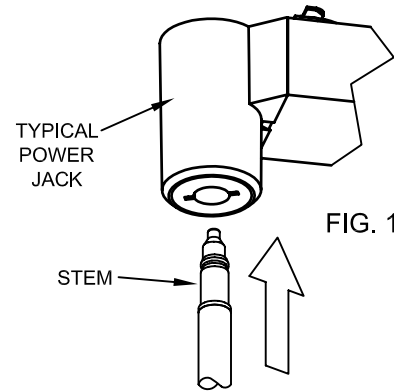

FIG. 1
1. **TURN POWER OFF.** Firmly insert STEM into POWER JACK (See Fig. 1) until it clicks. Verify engagement by **LIGHTLY PULLING DOWNWARD.** The STEM should not release from the POWER JACK.